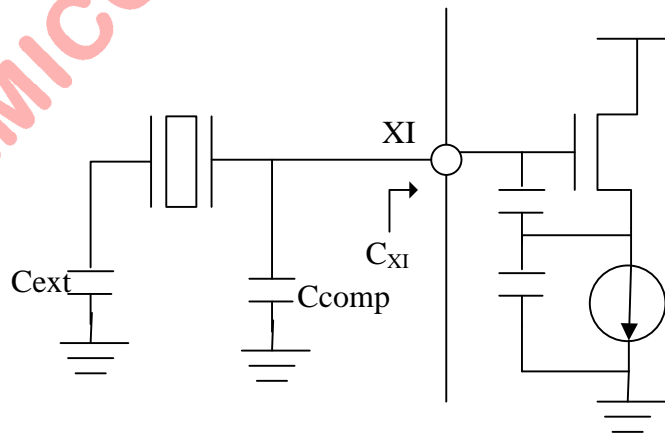

Fig 9.5.1
1) The stable time depends on the parallel capacitor (Ccomp) connected to XI, as shown in Fig 9.5.1. The time shown above assumes no parallel capacitor. For a 10pF capacitor, the stable time will be lengthened to 4ms typically.